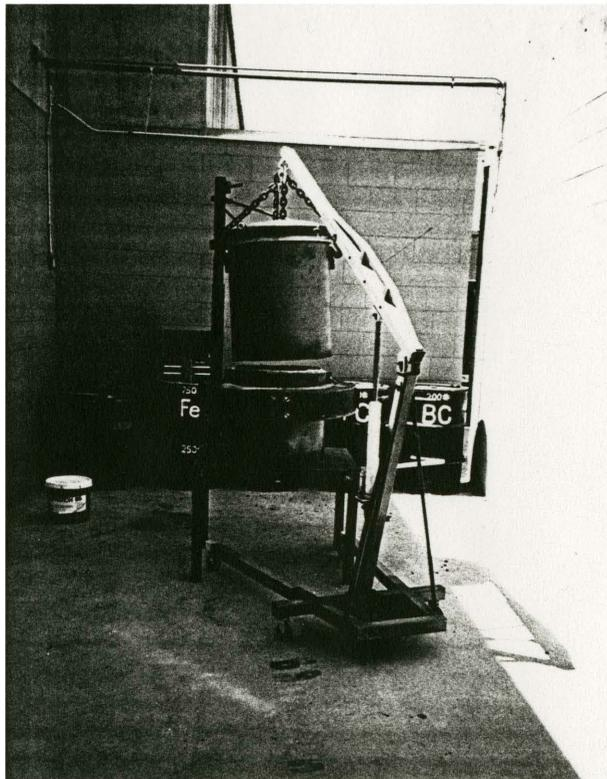

Fig. 5. Assembly of well and stack sections in "permanent" location.
4. place, level stack section on will. Bolt securely. See Fig. 5.